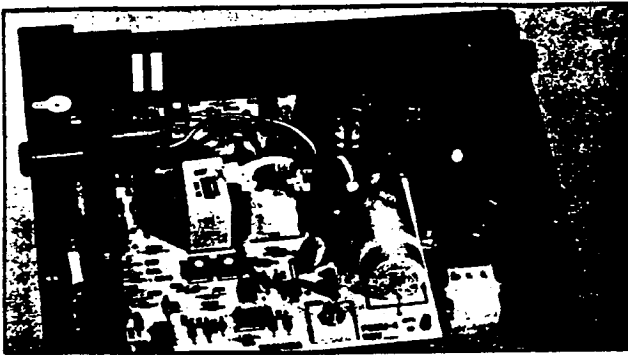

FIGURE 16—PBBU HEAT SINK
02.27 Make certain that no wires from the harness are caught between the cover and the PBBU heat sink (Figure 16), and replace the MPSA cover. Secure it with the ten screws originally removed.